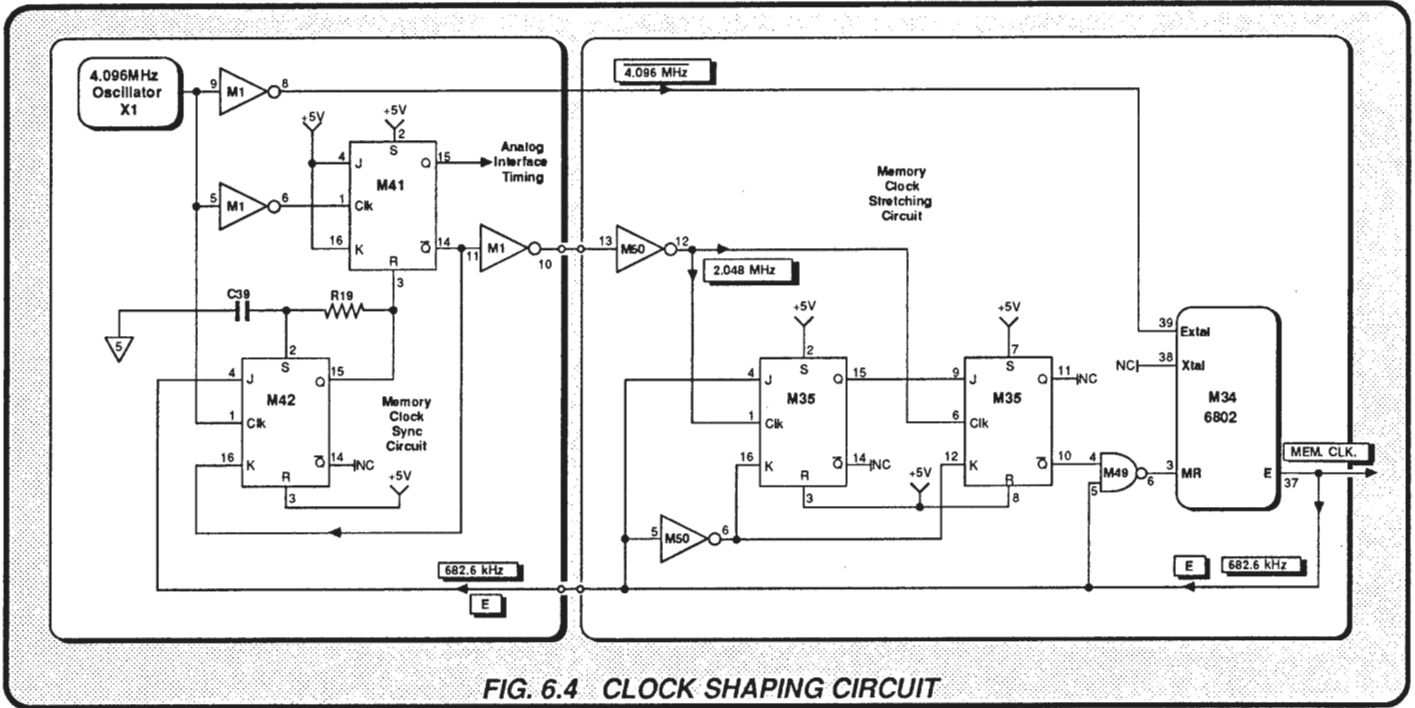

FIG. 6.4 CLOCK SHAPING CIRCUIT
NB As the circuit locations in Fig 6.4 are clearly marked, and as there are no duplicate designators in the circuits, this description does not refer to a component's location except where necessary.
If M34-3 (MR-Memory Ready) were permanently held at +5V, the E signal would be 1.024MHz. But in the 4700, a 'stretching' circuit (M35/M49) doubles the Logic High (+5V) time of E by switching MR to Logic Low (0V) for part of the cycle. This is shown on Fig.6.4.
(Fig. 6.4)
6.1.7.2 Shaping Action (Figs. 6.4 and 6.5)